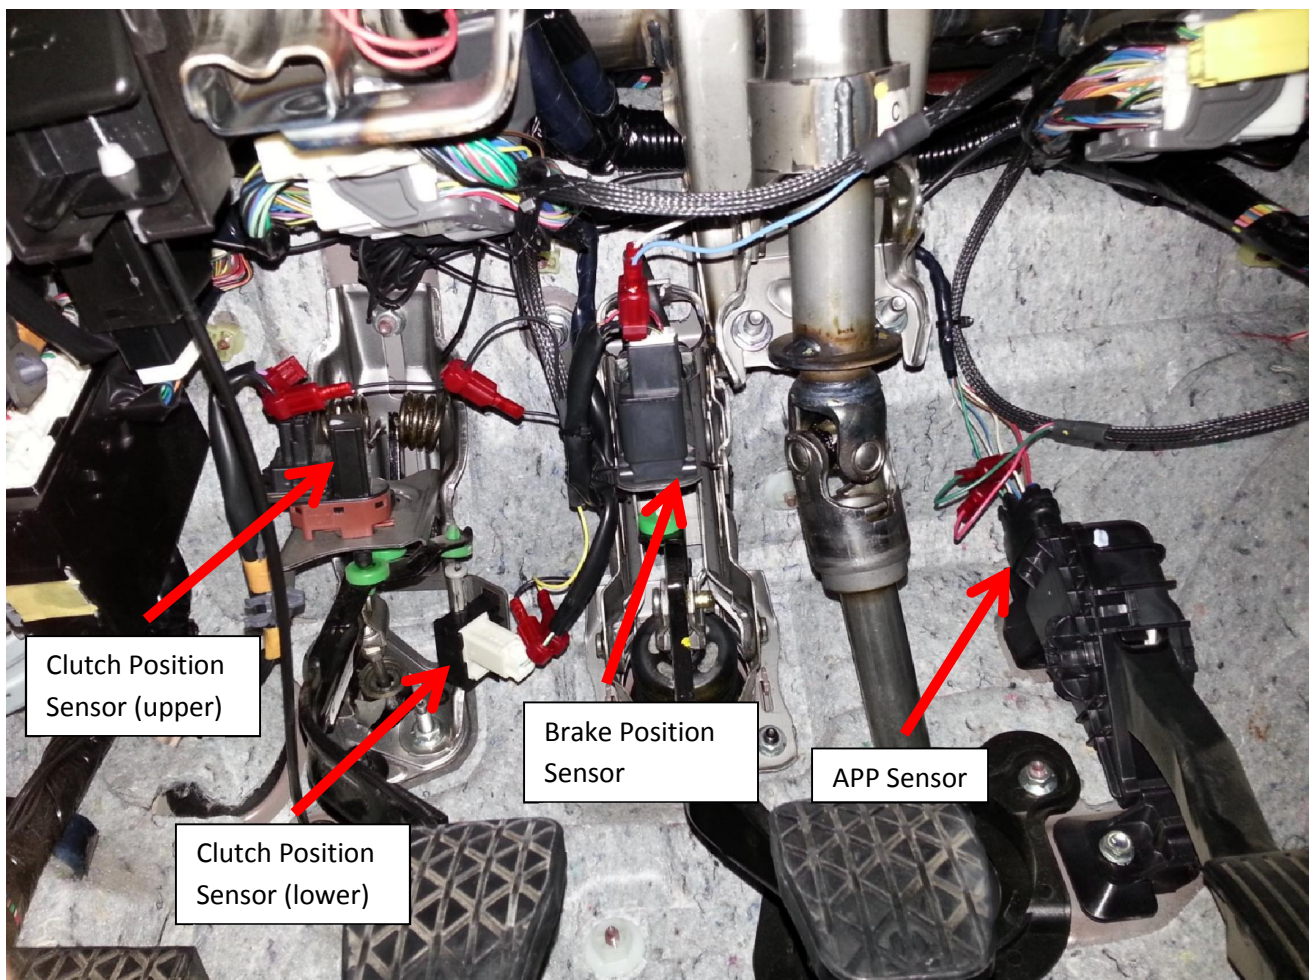

Figure 1 (Sensor Locations)
1. Locate Accelerator Pedal Position Sensor (APPS) (Figure 1).